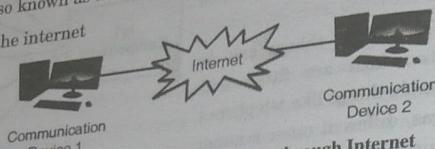

Fig. 3.5.1 : Computers Connection through Internet
- Computers connected to the internet means that the systems are connected to computers' worldwide network. It is necessary that each machine/device has its own or unique address. Addresses of the internet are in the form "xxx.xxx.xxx.xxx," where each "xxx" ranges from 0-256. The structure of the internet address is also known as an Internet Protocol address. Fig. 3.5.1 shows the connection between two computers using the internet.
- As the device is connected to the internet with a unique address. The next thing, what is the procedure to communicate the device with the system at another end? For understanding purpose, we are considering an example. As we discussed in Fig. 3.5.1 one system holds an IP address, i.e., 173.196.95.98, and the second system contains an IP address, i.e., 162.194.60.98. Suppose client want to send a message "Hello XYZ" to another. In this example medium of communication is wire that connects "Your computer" to the internet.